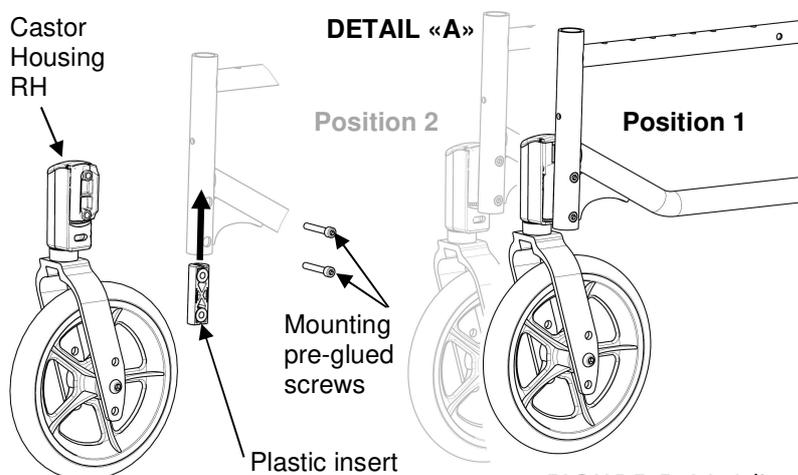

FIGURE 5.11 Adjusting Castor Assembly Position
NOTE: For this procedure, refer to FIGURE 5.11.
2. Move the castor housing assembly to one of two positions. Refer to Detail “A” of FIGURE 5.11. Always check that the plastic insert is present before tightening the mounting screws.